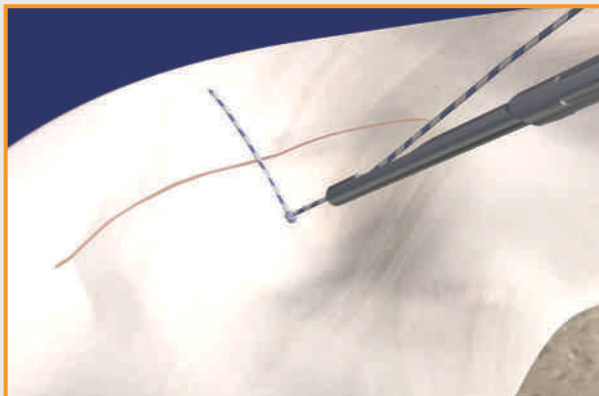

Figure 17. Slide the knot pusher/suture cutter to the knot.
7. While holding the suture taut, gently slide the knot pusher/suture cutter to the knot (**Figure 17**). The knot pusher should engage the suture in a direct line perpendicular to the repair. A manual suture “pull”/“push” maneuver is suggested, and the knot should be tightened until the desired amount of compression is generated at the tear site.